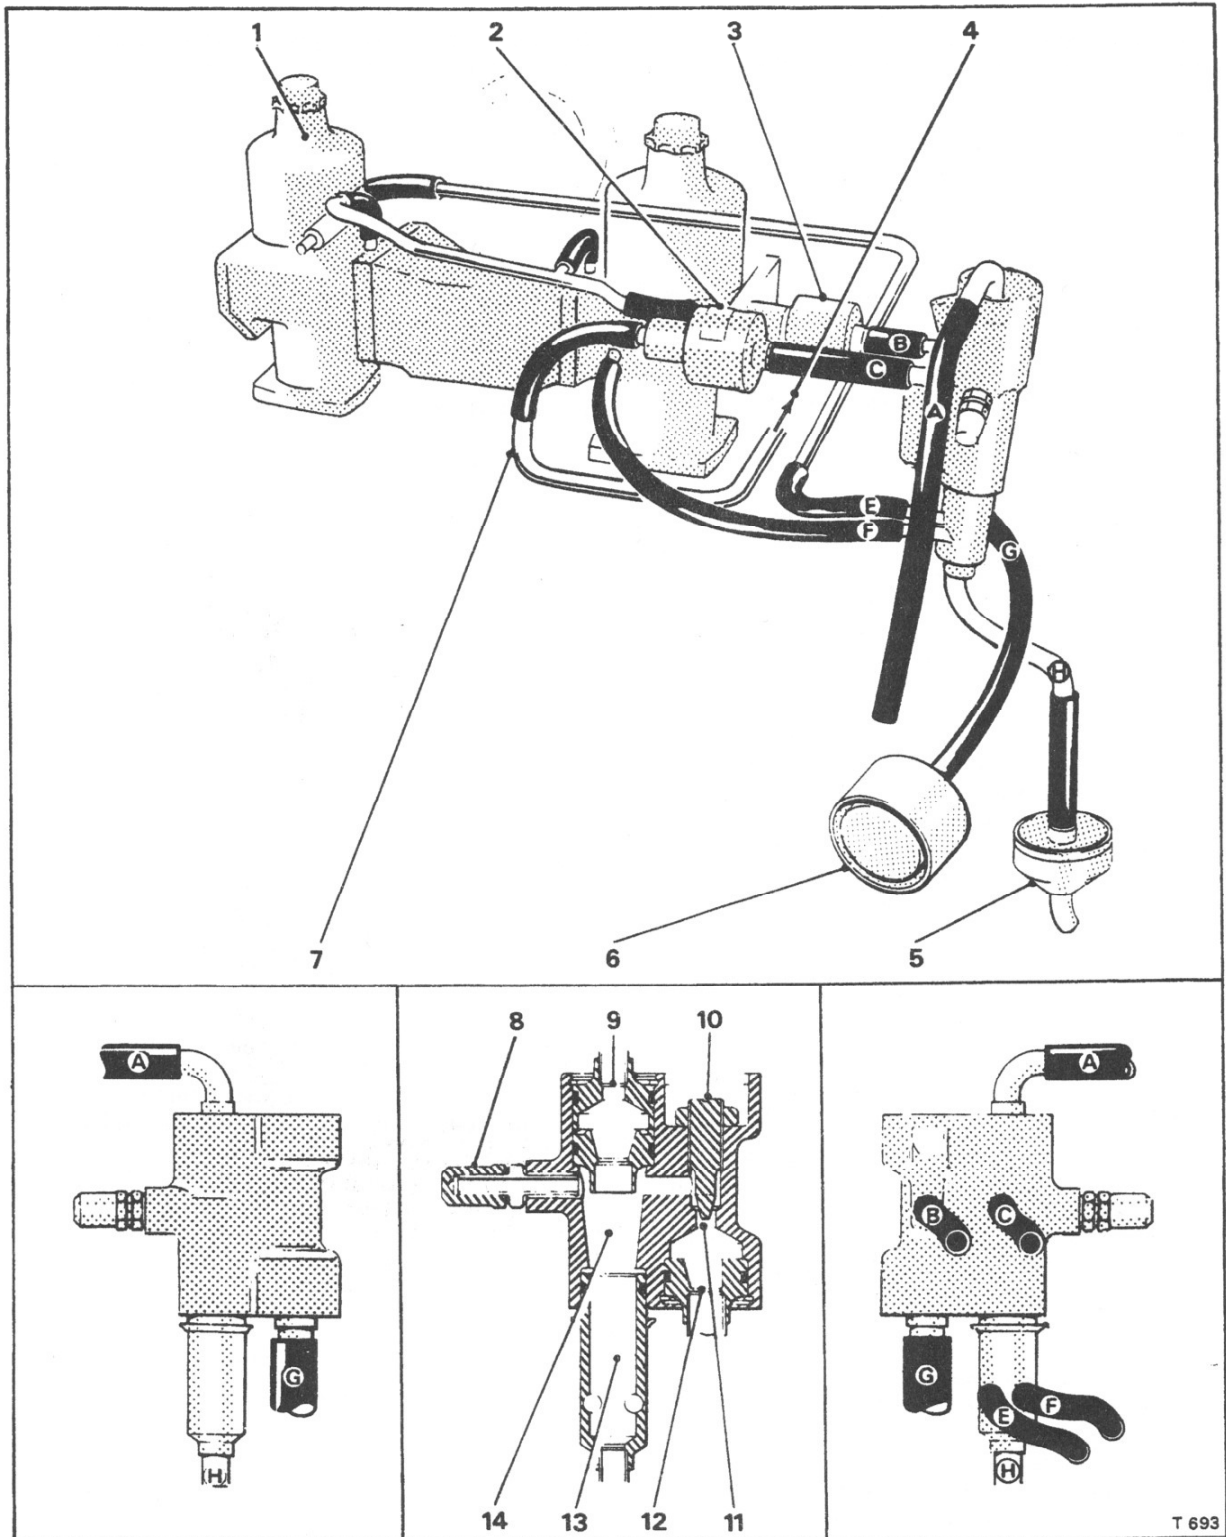

Fig. K86 Mixture weakening device
The weakening device housing contains two chambers (see Fig. K86) the venturi chamber and the fuel receiver chamber, the two being interconnected by a passage and an adjustable venturi.
Weakening device - To dismantle (see Fig. K86)
6. If the float chamber depression is still incorrect after checking through the possible causes in Operation 5, set the weakening device signal strength (float chamber depression) by unlocking and turning the adjusting screw (see Fig. K86) until the correct manometer reading is obtained. Turning the adjusting screw clockwise increases the depression.
The use of low octane fuel often causes an engine to 'diesel' (i.e. to continue to run-on after the ignition has been switched off, particularly when the engine is hot). To prevent this an anti 'run-on' solenoid is fitted between the fuel receiver and the induction manifold (see Fig. K86). When the ignition is switched off the solenoid valve opens and connects the weakening system to the induction manifold, thus creating a high depression in the float chambers which cuts off the fuel supply.